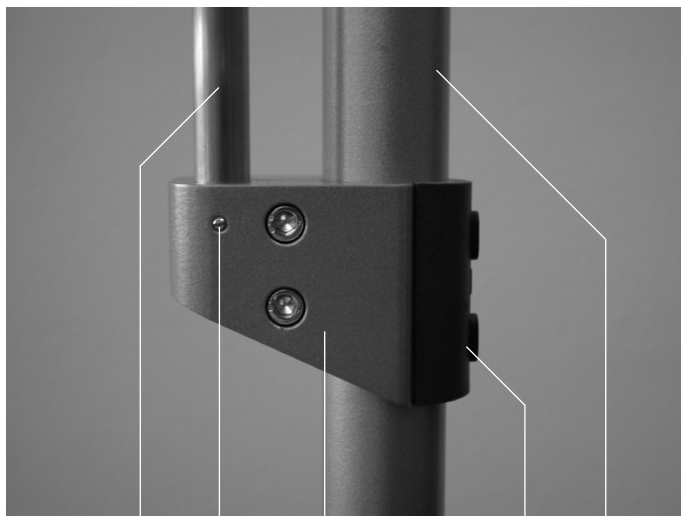

Fig. 63
Mounting steps (see Fig. 63)
- J05 Fasten the lower clamp [51] onto the column [SR] of the luminaire (see Fig. 63).
Note: For luminaires with an operating panel, the lower clamp [51] should be mounted opposite the operating panel [BT] (see Fig. 63).